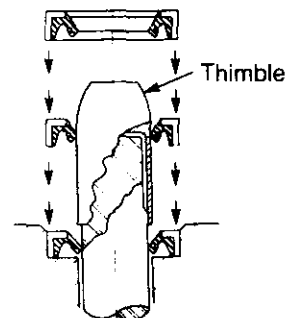

Figure 25. Shaft In Place
3. Polish shaft to remove burrs, sharp or rough edges that touch seal lip during assembly. Use mounting thimble or a sheet of shim stock as in Figure 25, to protect the seal. The thimble wall should be as thin as possible (.012 in. 3mm max.) to avoid seal lip distortion during assembly. We recommend lubricating the shaft and oil seal lip before mounting the seal over shaft.